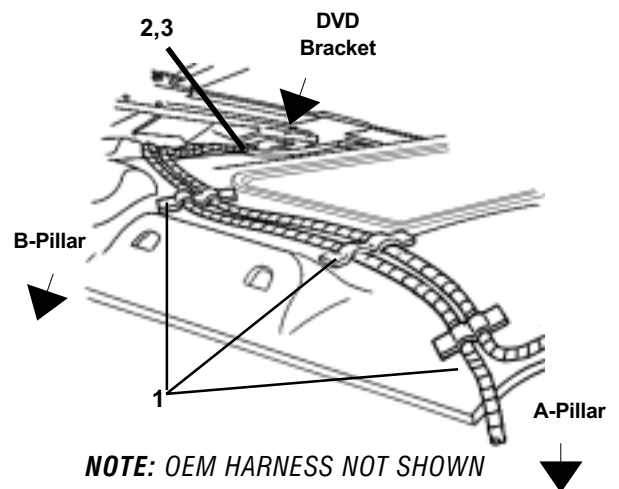

FIGURE 30
1. ROUTE THE DVD MAIN WIRE HARNESS AND THE DOME LIGHT HARNESS ABOVE HEADLINER TO THE DVD BRACKET ASSEMBLY. (SEE FIGURE 30)